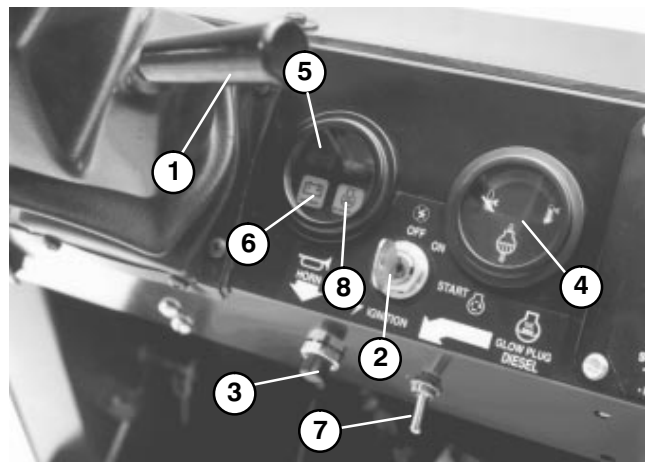

Figure 22
Tilt Steering Lever (Fig. 22) – Lever on right side of console allows steering wheel to be adjusted for operator comfort.
Coolant Temperature Gauge (Fig. 22) – Registers coolant temperature in engine. Operates only when ignition switch is in On position.
Horn Button (Fig. 22) – Pressing button activates horn.
Engine Low Oil Pressure Light (Fig. 22) – Light glows if engine oil pressure drops below a safe level while engine is running. If light flickers or remains ON, stop vehicle, turn off engine and check oil level. If oil level was low, but adding oil does not cause light to go out when engine is restarted, turn engine off immediately and contact your local TORO distributor for assistance.
Glow Plug Switch and Indicator (Fig. 22) — Use to preheat engine cylinders prior to cold engine starting procedures — cylinders are preheated automatically during warm engine start operation. For cold starting, push switch lever upward and hold while watching indicator. Indicator will glow orange when the glow plugs are activated. Length of time necessary to preheat cylinders should be determined by atmospheric temperature; refer to Starting /Stopping Engine.
Ignition Switch (Fig. 22) – The ignition switch, used to start and stop the engine, has three positions: OFF, ON / Preheat and START. Rotate key clockwise — START position — to engage starter motor. Release key when engine starts. The key will move automatically to the ON position. To shut engine off, rotate key counterclockwise to OFF position.
Charge Indicator (Fig. 22) – Illuminates when battery is being discharged. If light illuminates during operation, stop vehicle, turn Off engine and check for possible causes, such as alternator belt.
5. When temperature is below 15°C (60°F), push glow plug switch upward to ON position (Fig. 22) and hold for suggested interval.